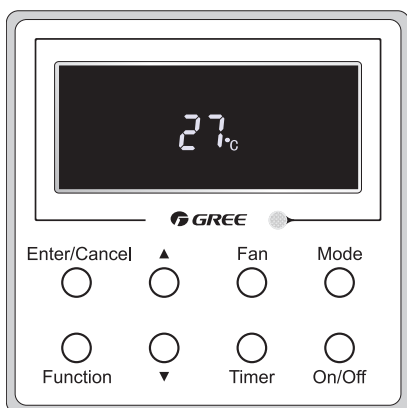

Fig. 4 "Off" Status
**Note:** Fig.4 shows that the unit is off after the on/off button has been pressed.